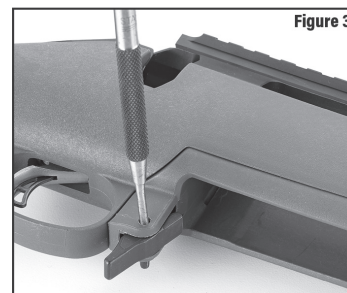

Figure 3
- a. **Cover the magazine latch with a towel to keep the latch and spring from flying out when the latch pin is removed.** With a 1/8" punch, tap out the magazine latch pin. (See Figure 3)